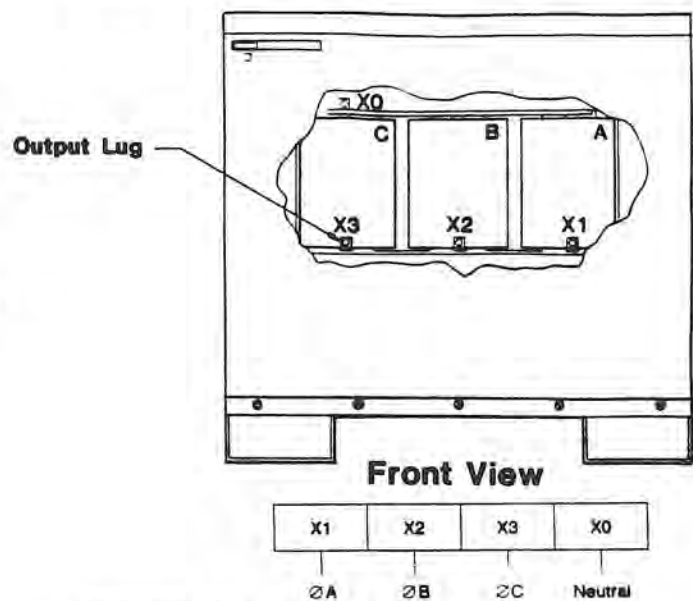

FIGURE 3-2. Output Terminal Connections
17. Connect the output cables to the output terminals as shown in Figure 3-2.